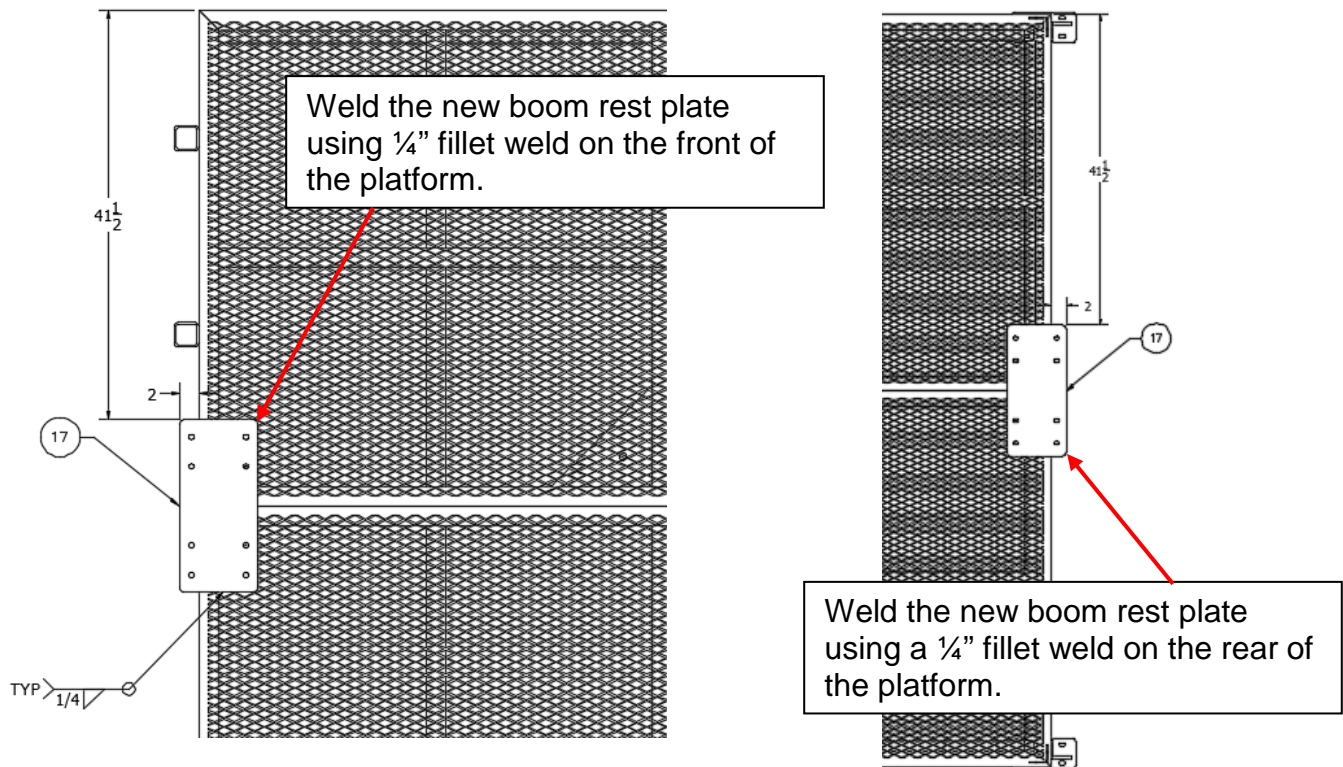

Figure 4.1 (Detail "A")
3. Install the boom rest mount plates to the platform. **(See Figure 4.1)**